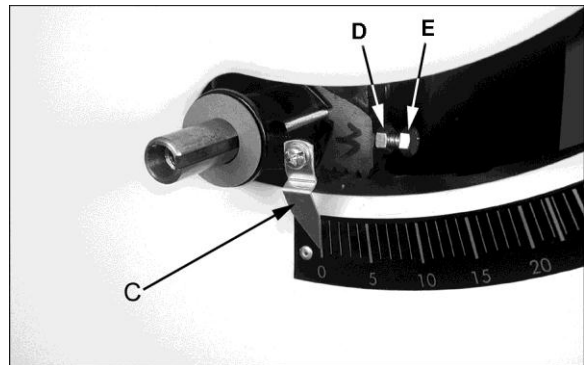

Figure 21
8. Verify pointer accuracy (C, Figure 21). Adjust if needed.
11. If blade is not at 45-degrees, loosen lock nut (D, Figure 21) and turn stop screw (E) on the front trunnion as needed. The stop screw should contact front trunnion bracket when blade is 45-degrees to table. (Note: You may wish to remove front hand-wheel for better access to stop screw.)
12. Verify pointer accuracy (C, Figure 21).